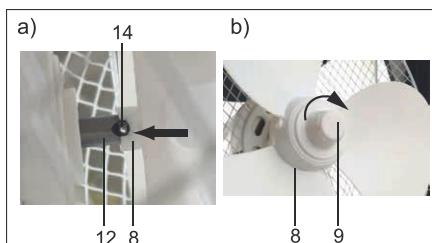

Fig.15: Monting rotor
6. Push the rotor (8) onto the motor axle (12). *The small transverse axis (14) at the end of the motor axis must lie in the recess of the rotor attachment. See Fig. 15 a).*
7. Place the nut (9) on the rotor.
8. Tighten the nut clockwise. See Fig. 15 b).